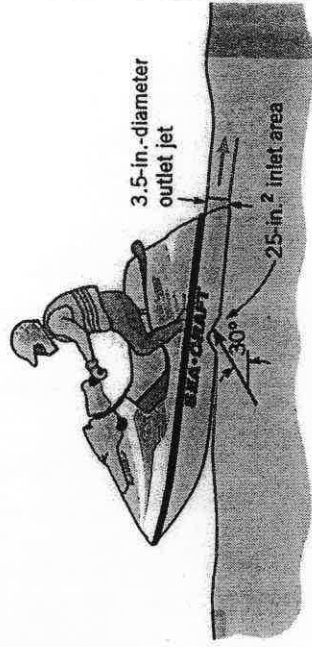

FIGURE P5.34
5.34 The thrust developed to propel the jet ski shown in Video V9.12 and Fig. P5.34 is a result of water pumped through the vehicle and exiting as a high-speed water jet. For the conditions shown in the figure, what flowrate is needed to produce a 300-lb thrust? Assume the inlet and outlet jets of water are free jets.